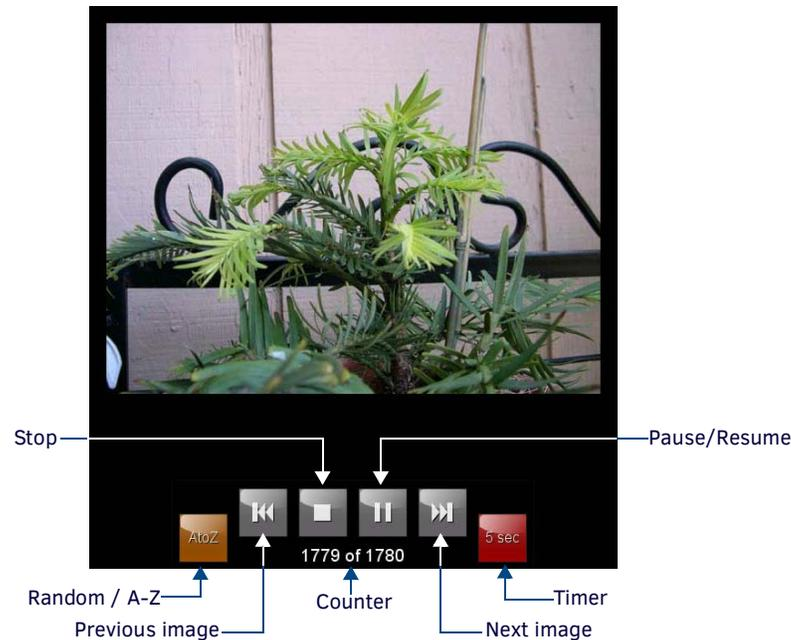

FIG. 4 Picture View Configuration Popup Menu
2. When the images begin to display, touch any place on the touchscreen to open the configuration popup menu (FIG. 4).